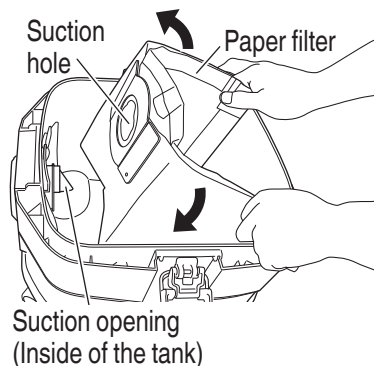

Fig. 29
- (1) Open the paper filter horizontally so that the suction hole in the paper filter is over the top of the tank. (see **Fig. 29**)